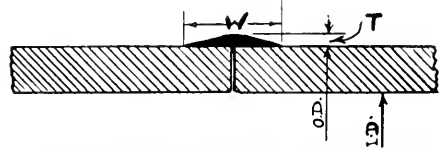

FIGURE 3.—A TYPICAL CROSS-SECTION OF BRONZE WELD AS APPLIED TO PIPE. (By Courtesy of the Acetylene Journal.)
1. The width W (Figure 3) of the Tobin bronze
2. The thickness  $T$  (Figure 3) of the Tobin bronze weld on cast iron should vary in direct proportion to the thickness of the cast iron pipe and for a maximum strength weld should not be less than 3.16 times nor more than  $1\frac{1}{4}$  times the thickness of the pipe.